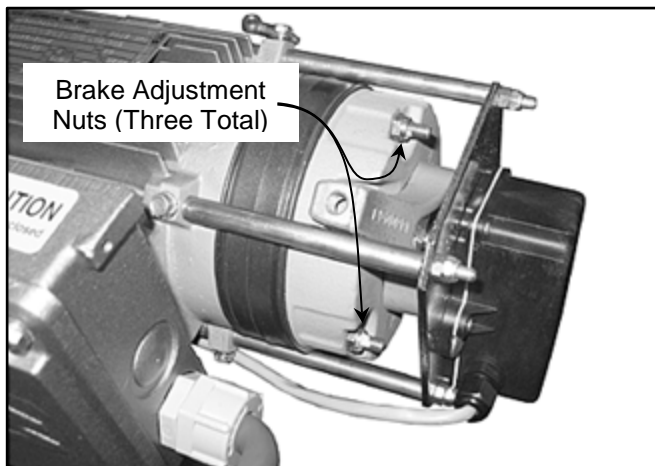

Figure 44
- To adjust the brake, first securely tighten all brake adjustment nuts. Then back off each nut 1/2 turn counterclockwise. (See Figure 44)